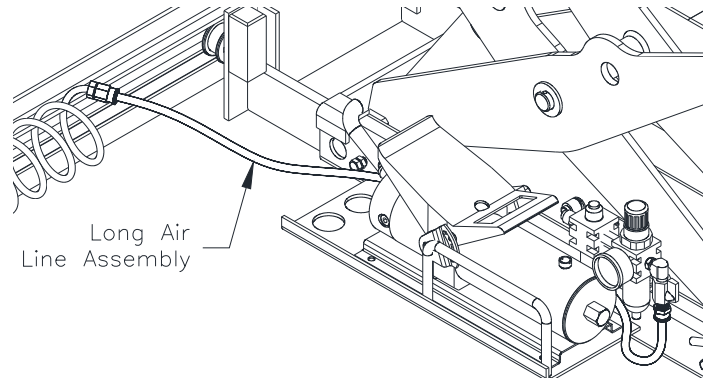

Figure 13
17. Attach Long Air Line Assembly to spiral flex air line farthest from Jack air connection point. Route assembly behind Jack Pump and connect male end to fitting on Jack as shown in **Fig. 13**.